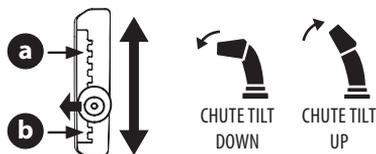

Figure 66
To raise or lower the upper chute, move the lever forward or backward (Figure 66).
- **To Reduce the Distance Snow is Thrown:** Move the lever forward to tilt the upper chute down (Figure 66).
- **To Increase the Distance Snow is Thrown:** Move the lever rearward to tilt the upper chute up (Figure 66).
- **To Reduce the Distance Snow is Thrown:** Disengage lever from the current chute setting. Move the lever forward to tilt the upper chute down to the desired setting (a) (Figure 66).
- **To Increase the Distance Snow is Thrown:** Disengage lever from the current chute setting. Move the lever rearward to tilt the upper chute down to the desired setting (b) (Figure 66).